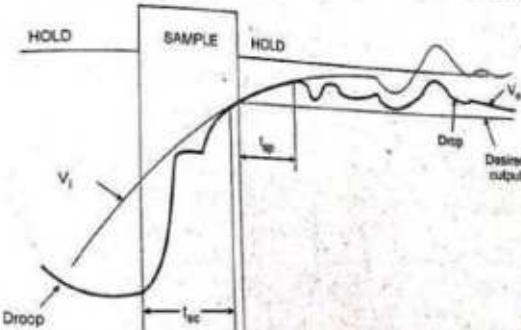

Fig. 6.7.4 S/H circuit waveforms
- These specifications are explained below with the help of S/H circuit waveform, shown in Fig. 6.7.4.